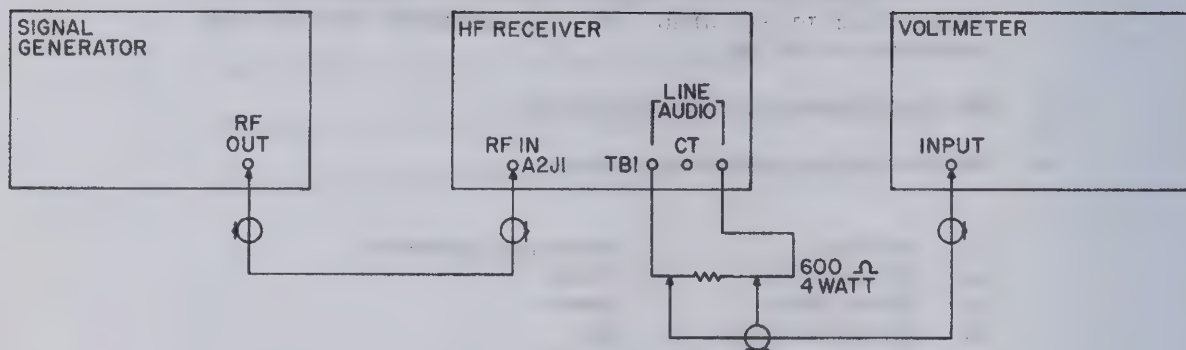

Figure 4-5. MAN/AGC Performance, Test Setup
1. Connect the test equipment to the receiver as shown in Figure 4-5.